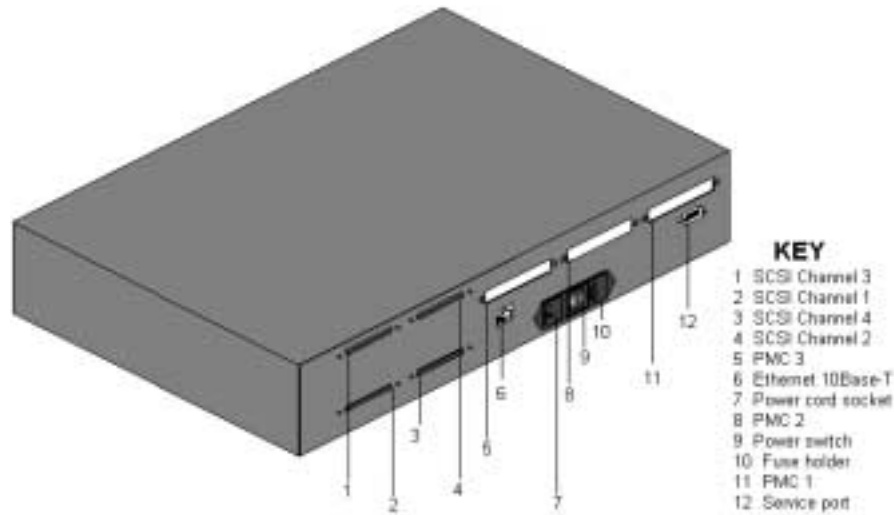

Figure 9-2: Key to Back Panel
7. Reconnect the cables to their designated ports. See Figure 9-2 for cable locations.